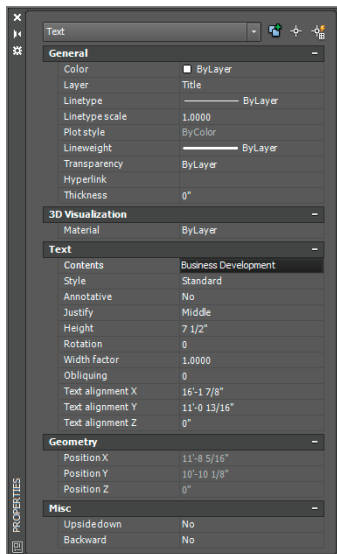

FIGURE 6.4 Editing a value in the Properties panel
- Select the Business Development text object you selected in step 10. Many of its properties appear in the panel (see Figure 6.4). Property values that are editable are displayed on a black background when selected.